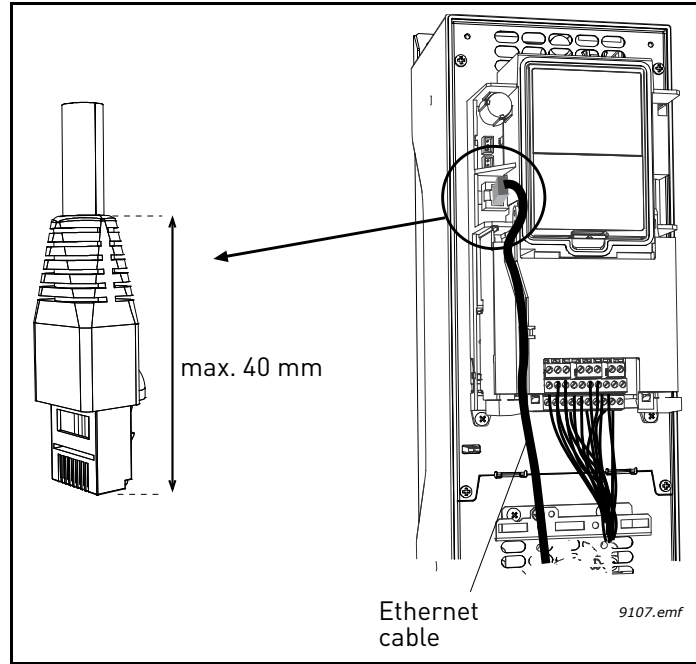

Figure 52.
- 1 Connect the Ethernet cable (see specification on page 59) to its terminal and run the cable through the conduit as shown in Figure 52. **NOTE!** Pay attention that the length of the connector does not exceed 40 mm. See Figure 52.